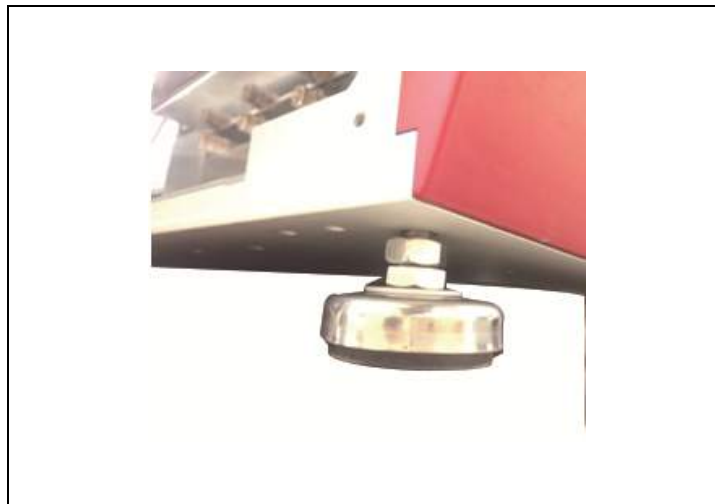

Figure 2. Adjust the horizontality by turning/balancing the rubber feet (Bottom view)
1. Please maintain the level by using rubber feet as shown in Figure 2.